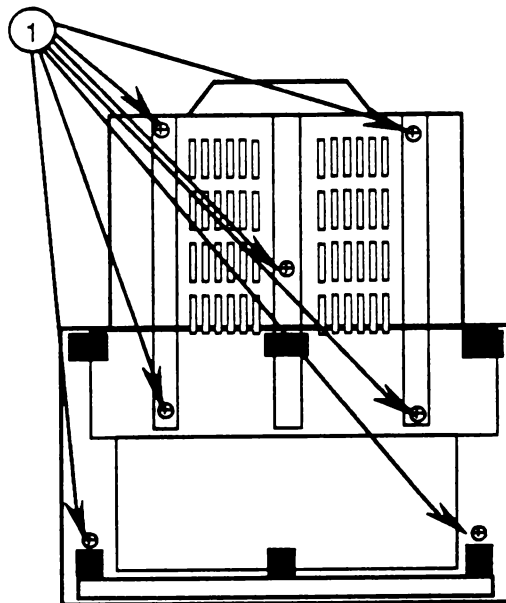

FIGURE 8
3. Remove the seven screws (Figure 8, #1) from the bottom of the monitor.